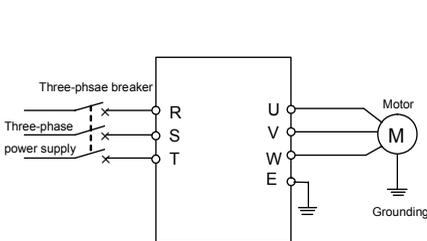

Figure 5-3 Wiring for the operation of SVC
- 1) Connect as per Figure 5-3;